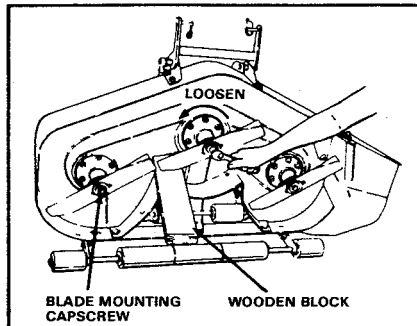

Figure 12. Loosen Blade
3. To remove blade for sharpening, use wooden block to hold blade while removing its blade mounting cap screw (figure 12).